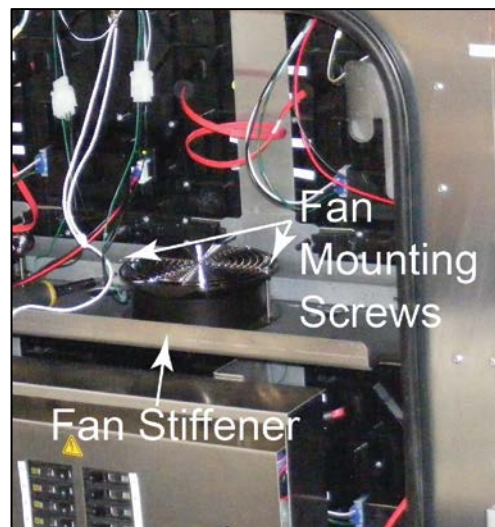

Figure 20: 4100 Series Fan
4. Use the Phillips head screwdriver to loosen the two fan mounting screws. Refer to **Figure 20**.